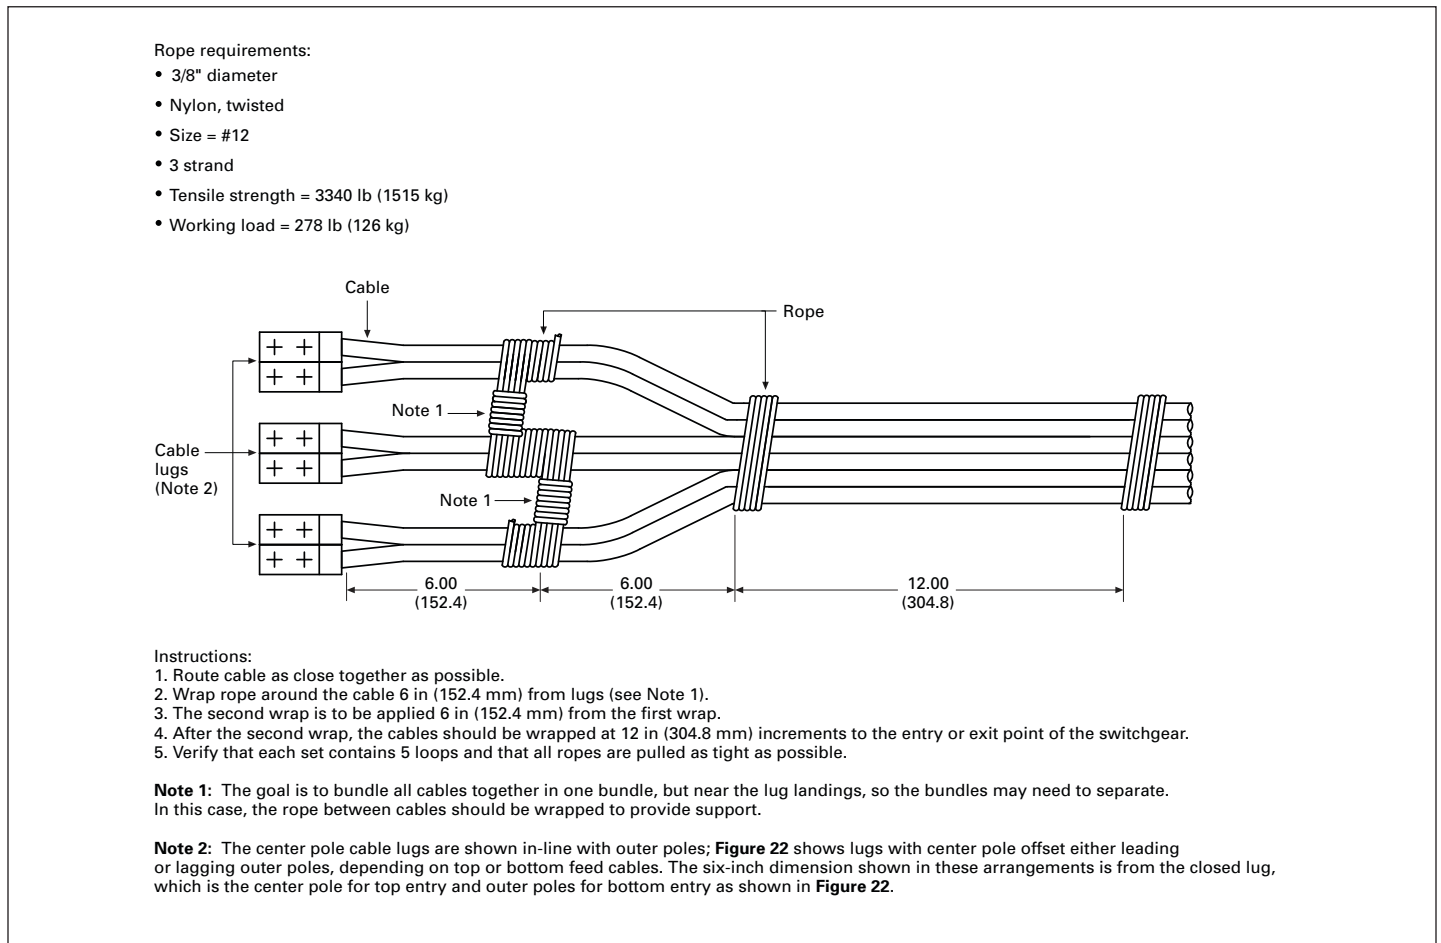

Figure 24. Cable lashing installation instructions
2. All non-current-limiting circuit breakers rated above 42 kA and with circuits rated for 800 A and below require cable lashing per **Figure 24**.
5. No cable lashing is required for circuits using more than four (4) cables of 500 kcmil or larger size wire per phase, regardless of short circuit rating.